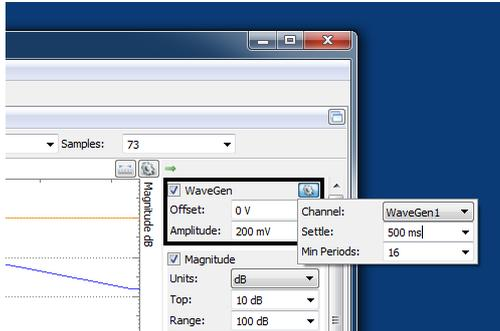

Figure 5.8 WaveGen Settle time
- in the *WaveGen* settings, set *Settle time* at 500ms, as in Figure 5.8. This will keep each frequency long time enough for observation.